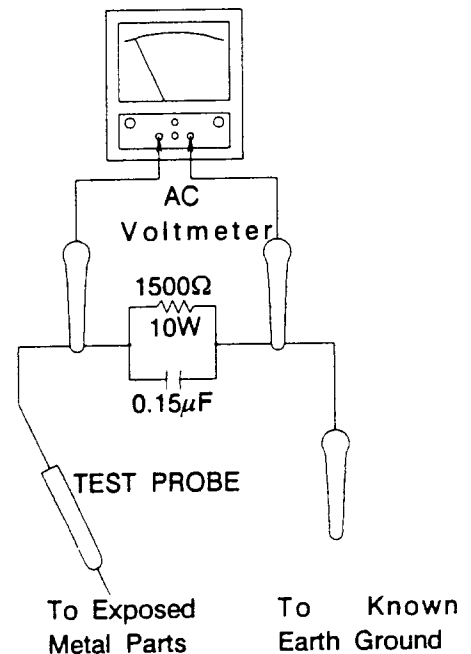

Figure 1. Leakage Current Test Circuit
- Use a SSVM or VOM with 1000 ohms per-volt or higher sensitivity to measure the AC voltage drop across the resistor. (See Figure 1.)